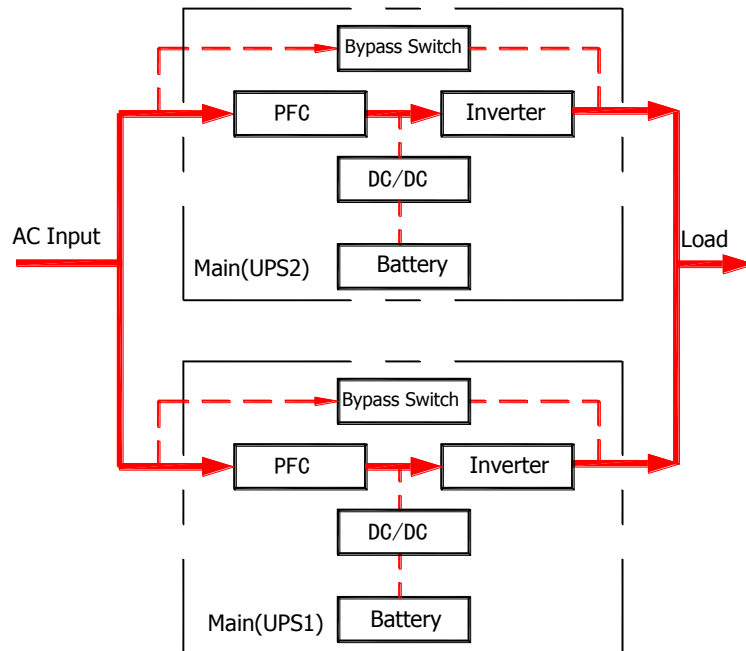

Fig.3.2-2 Working mode of utility normal
1、Working mode of utility normal (solid line is Energy flow of UPS) as shown in Fig.3.2-2.